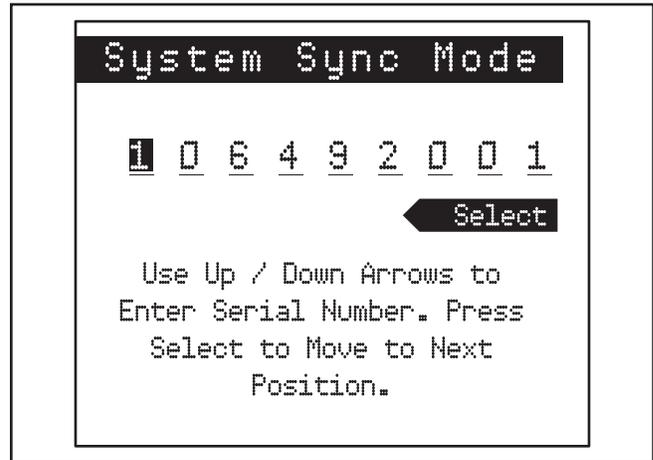

Figure 6: System Sync Mode
7. Select System Sync and the System Sync Mode will display (see Figure 6).